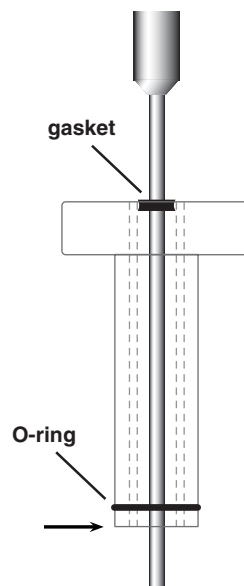

Fig. 3—Top Fitting Electrode Cap with electrode in place. Base of cap (see arrow) should touch the surface of the solution in the chamber.
6. Position the bottom of the Top Fitting Cap at the surface of the experimental solution. Ensure that at least one millimeter of the electrode is in the solution. Push the electrode further down into the Cap as necessary. The gasket holds the electrode in place and seals the chamber. (Fig. 3)